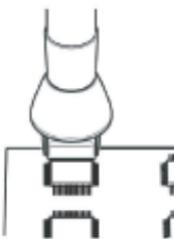

Fig. 7
- Heat the lead frame evenly (Fig. 7)